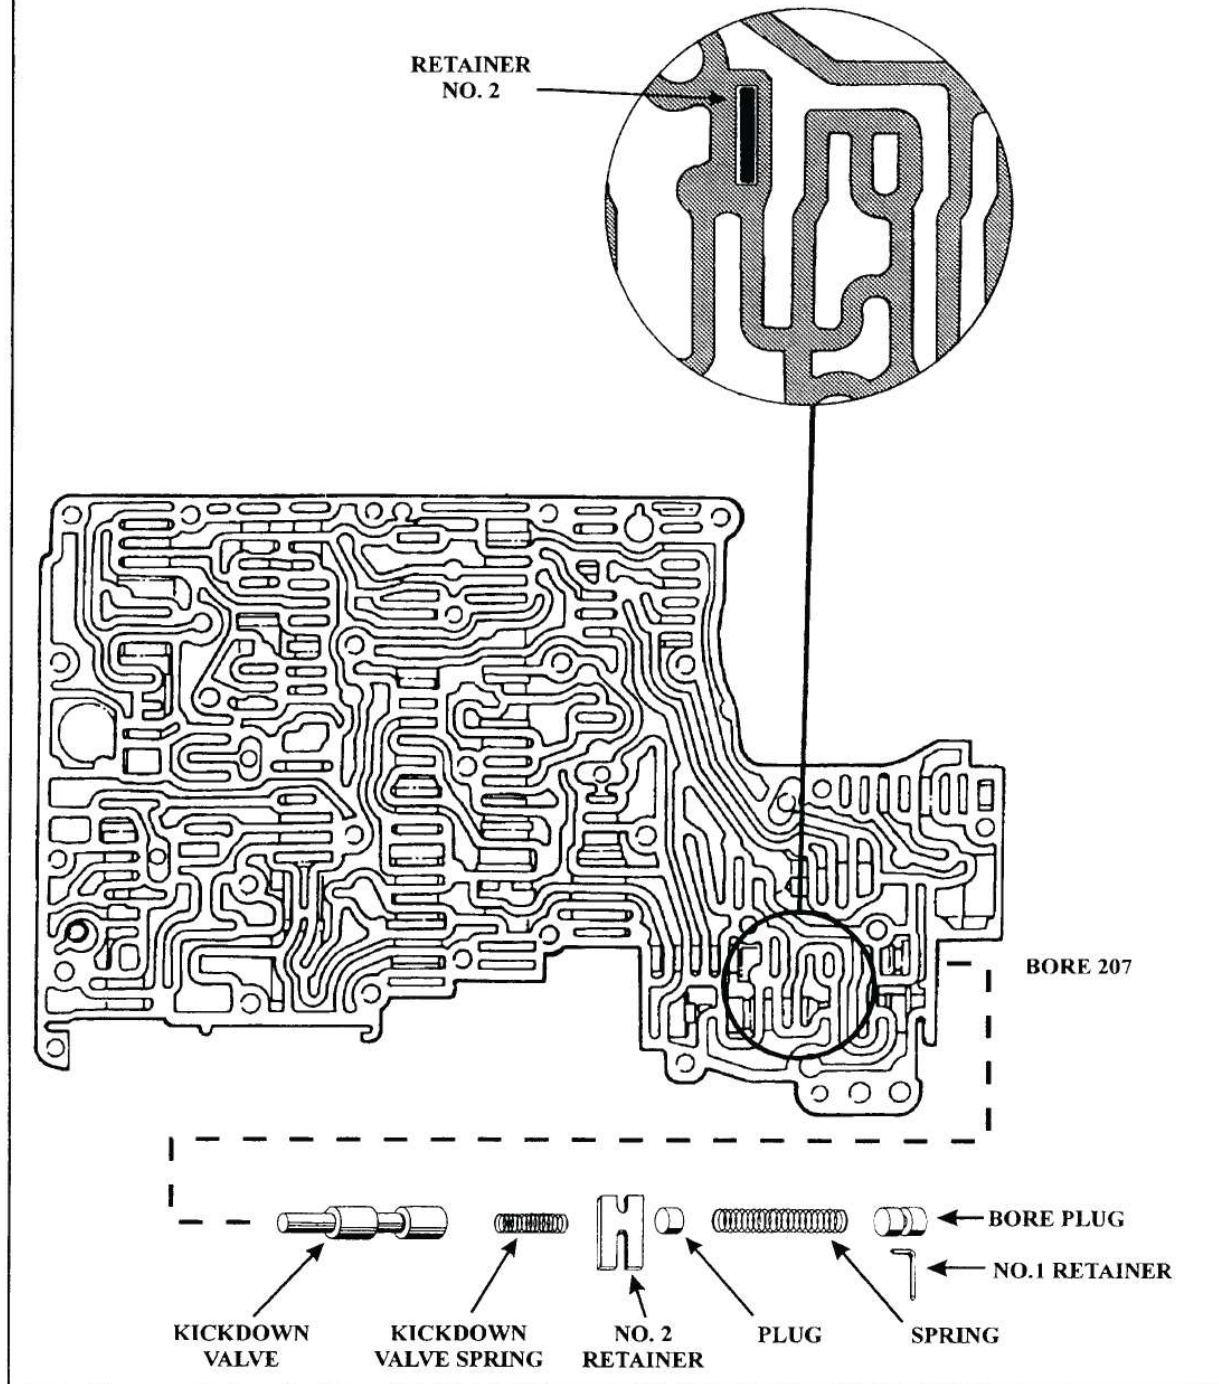
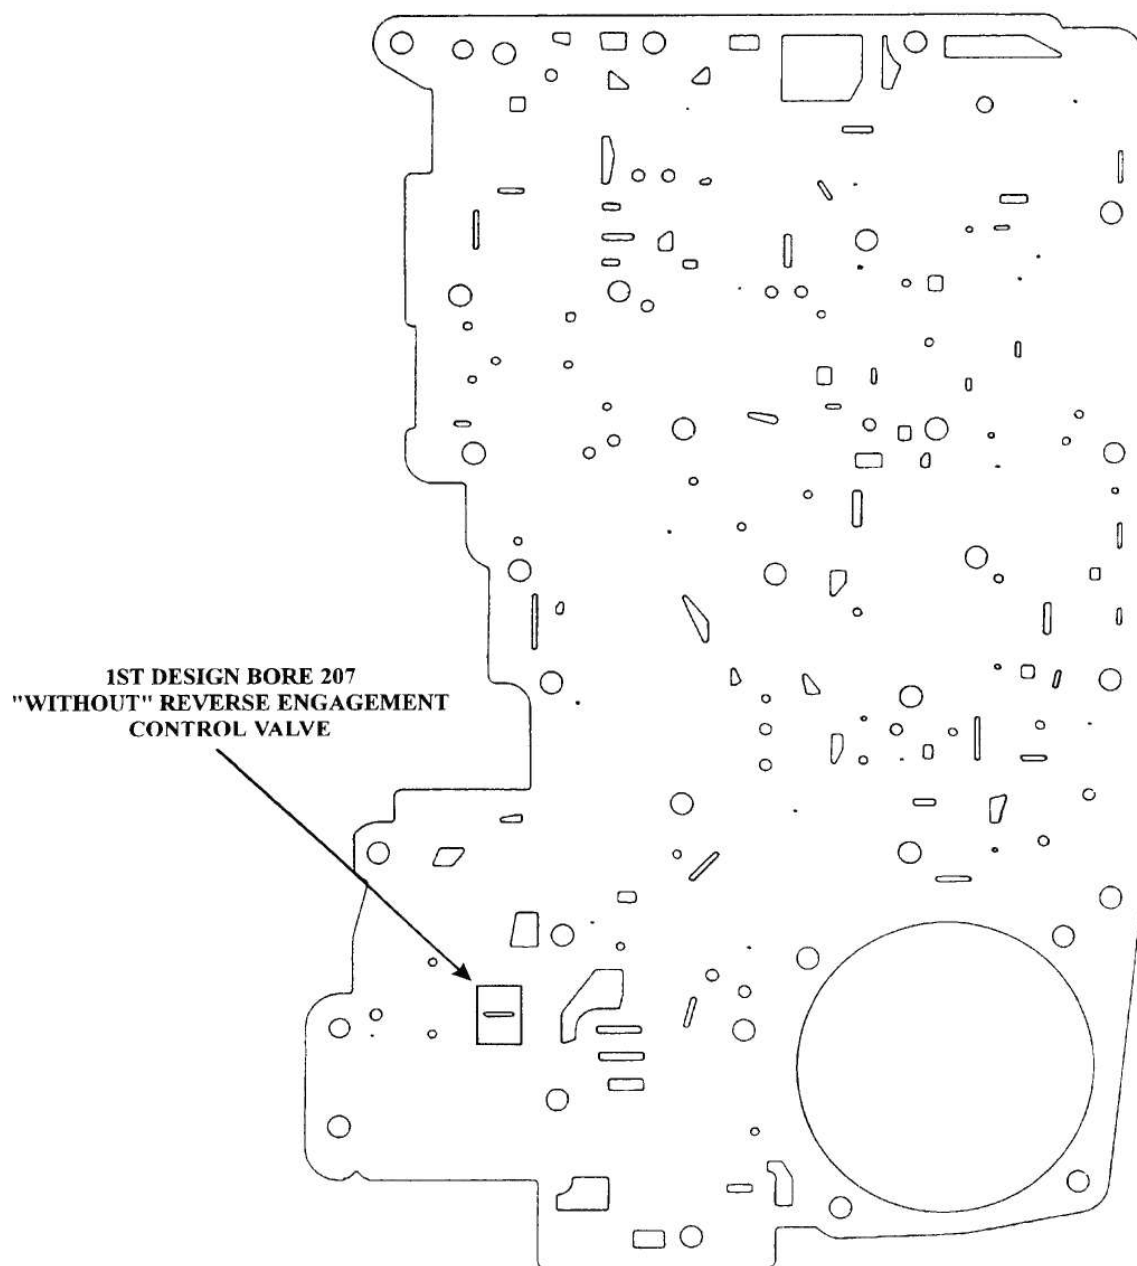
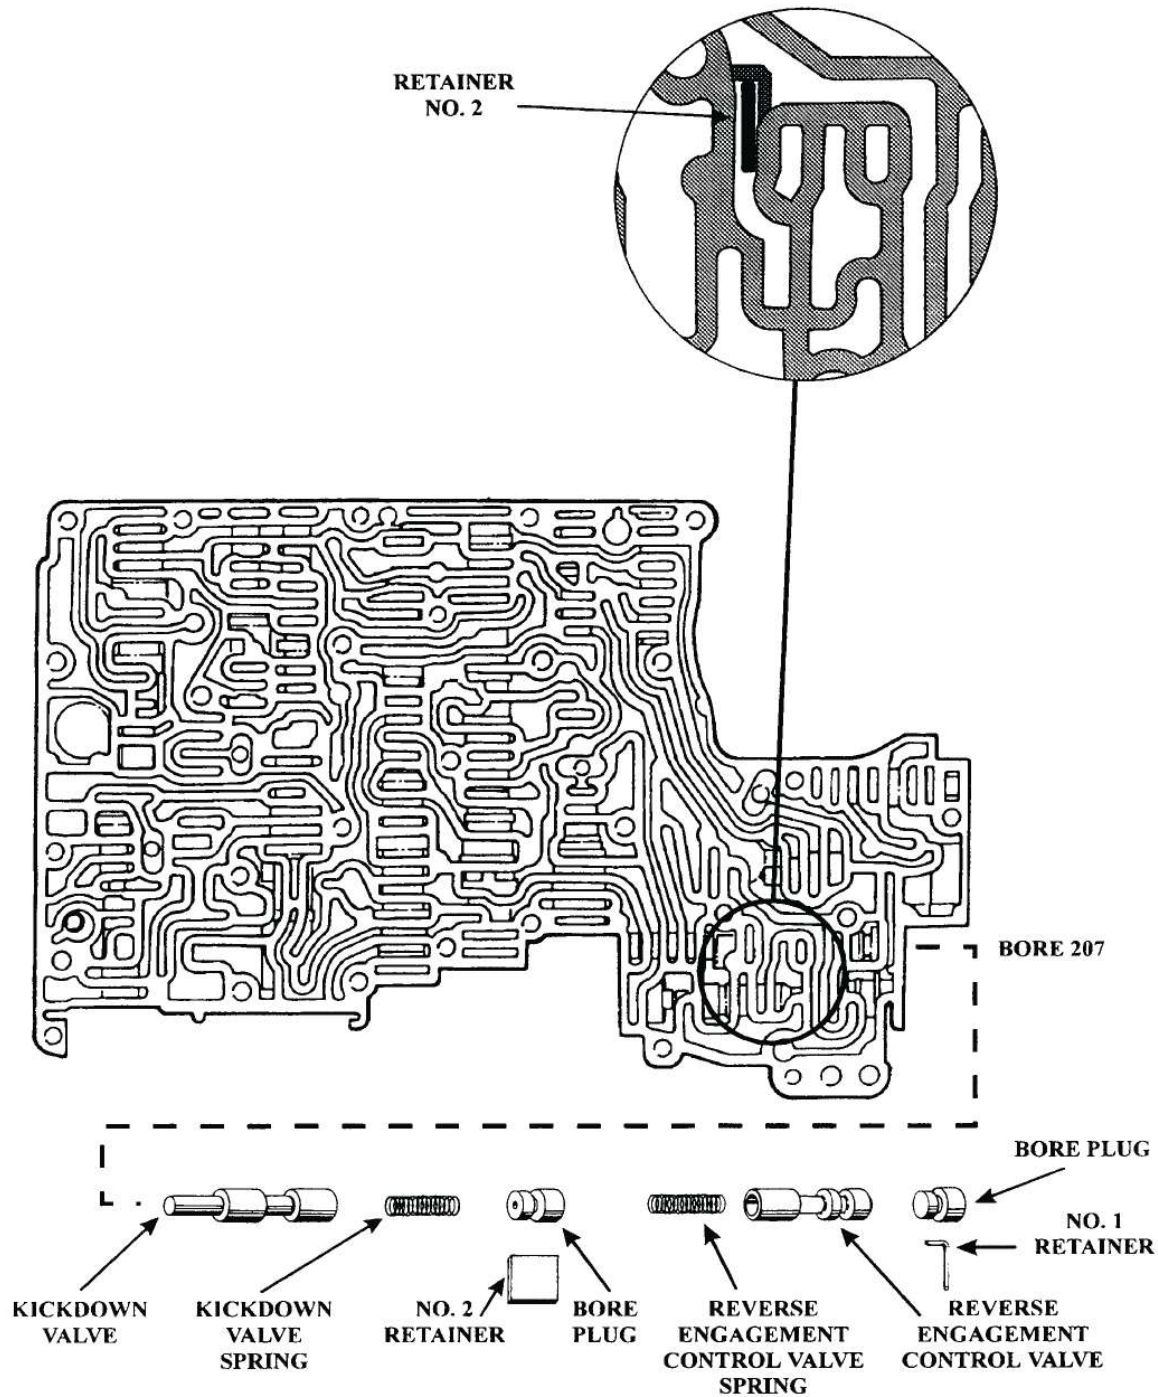
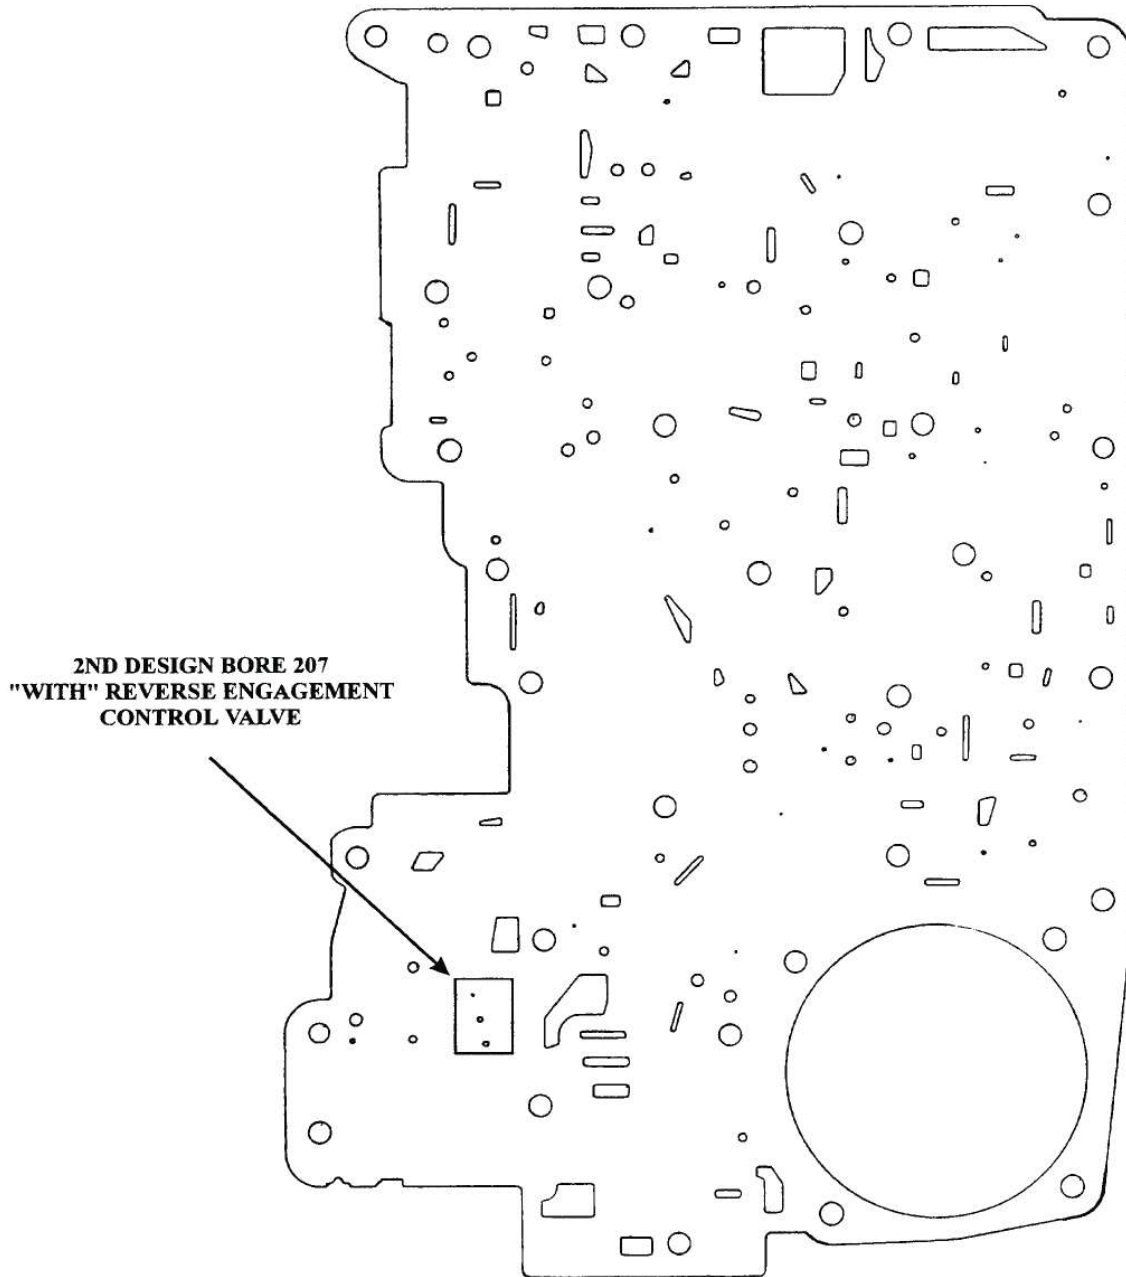

Figure 71
Figure 72
Figure 73
Figure 74
Figure 71 shows the correct line-up for this bore, and the No. 2 retainer location in the valve body casting. Figure 72 shows the "Slot" in the spacer plate that is required for the 1st design bore 207, "Without" reverse engagement valve.
This is when the reverse engagement control valve was added to bore 207, as shown in Figure 73, and also shows the location of the No. 2 retainer in the valve body casting and the direction of the bore plugs. Figure 74 shows the "3 Hole" spacer plate that is required on valve bodies containing the reverse engagement control valve.
**Note:** Valve body castings are also different in the worm track area, when it comes to bore 207. Compare the inset in Figure 71 to the inset in Figure 73, and you will see the difference in the passages, which **will not** allow you to install reverse engagement valve into a 1st design valve body casting.